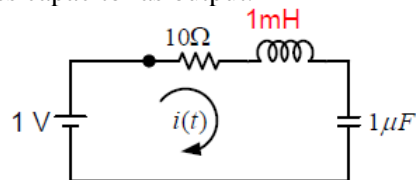

Fig.3
5. Define transfer function and find the transfer function of the series RLC circuit shown in Fig.3. Considering the voltage across capacitor as output.